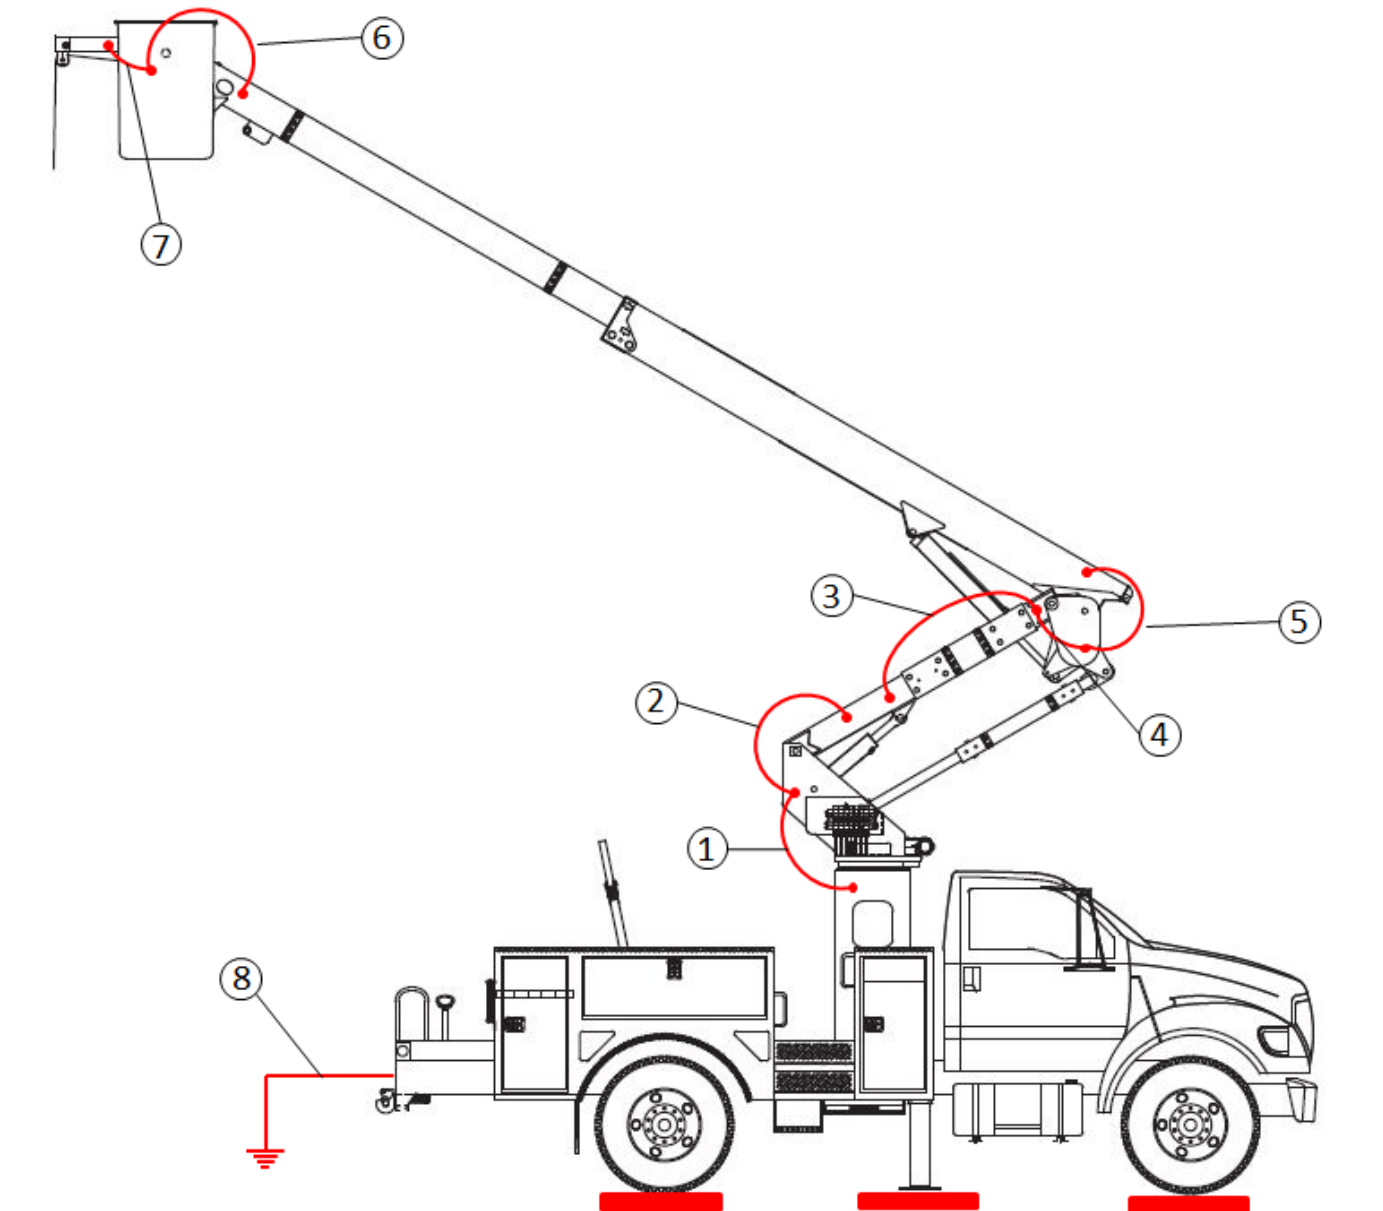

FIGURE 6
To begin setup for testing the upper boom, install jumpers between components in the following locations as shown in Figure 6:
STEP 12 - See **Figure 6** to identify jumpers.